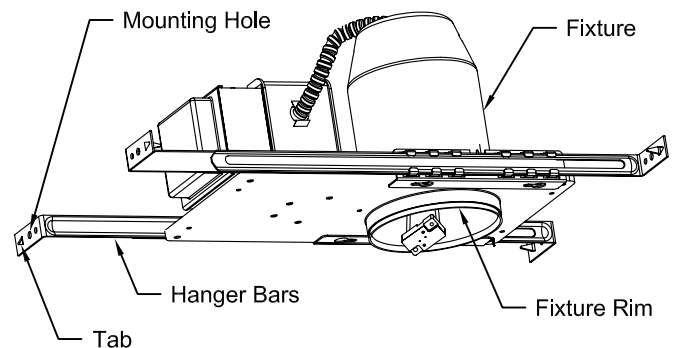

Figure 1
- Extend adjustable length of Hanger Bars to fit between joists. See Fig. 1 & 2.
- BE SURE Fixture rim (See Fig. 1) is flush with proposed Ceiling line.
- Tap Hanger Bars to seat Tab (See Fig. 1) in joist to temporarily secure Hanger Bars, then fasten Hanger Bars to joist with Nail through Mounting Hole (See Fig. 1) in Flange. (Mounting Hardware not provided.)